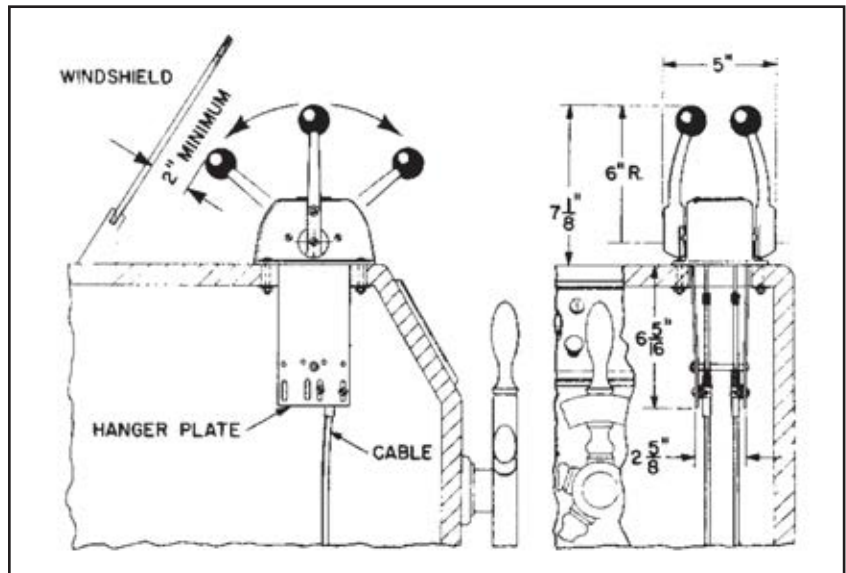

Figure 1.
**STEP 1.** Allow clearance for forward and reverse movement of the hand lever. (See Figure 1)